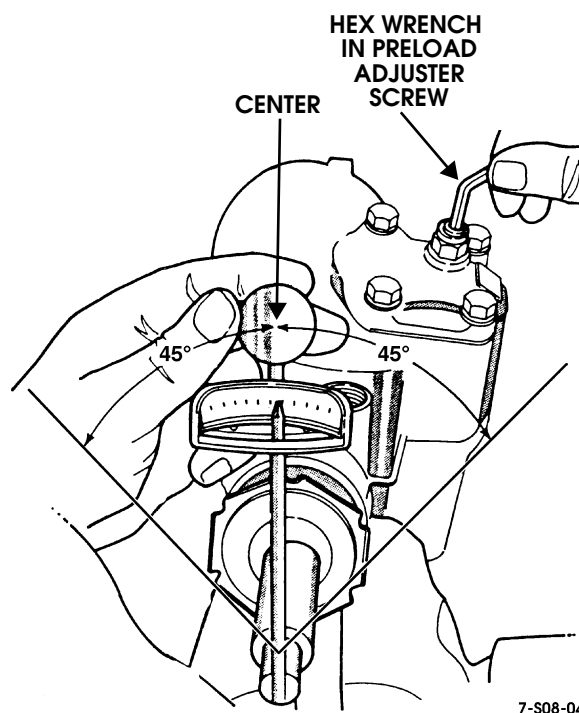

Figure 8-71: Checking / Adjusting Pitman Shaft Over-Center Preload
7. Back off adjuster plug to second index mark (Figure 8-71). Be sure hole in adjuster plug is aligned with second mark before proceeding.
- Position suitable size 12 point socket and inch pound torque wrench J-7754-C on stub shaft (Figure 8-71).